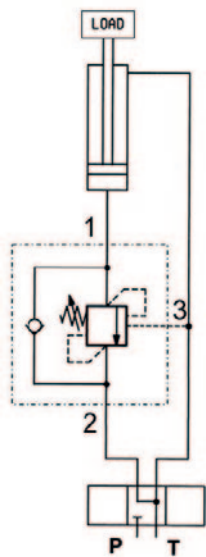

FIGURE 1
With reference to Figure 1, during descent, the pressure acting on the rod side of the cylinder also acts on the pilot line (3) of the valve, aiding its opening.
Load-induced pressure also pushes the cylinder downward. We call the pressure on the port (3) P_p , the load-induced pressure P_c , the setting pressure of the valve P_{TAR} and the pilot ratio R . Neglecting back pressure, for a scheme as in Figure 1, we have that the minimum pressure required to operate the valve descent